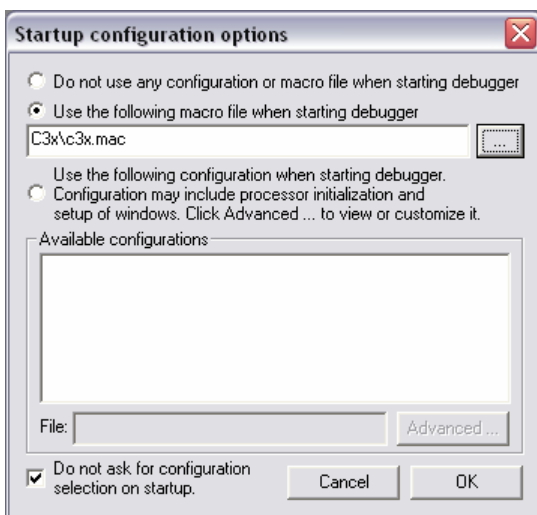

FIGURE 8 Configuring Chameleon's startup.
9. Click OK. In the Startup Configuration Options dialog box, select the Use the Following Macro File When Starting Debugger, and then type or browse for the configuration macro file. In our example, we choose the standard Chameleon C3x.mac file (Figure 8).